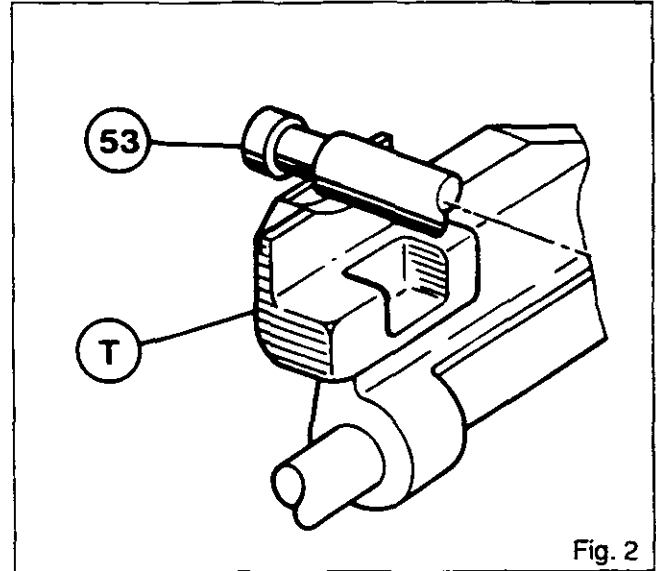

Fig. 2
- In the A range, fork (T) is in the position shown in Fig. 2 and prevents an accidental change to the B range.